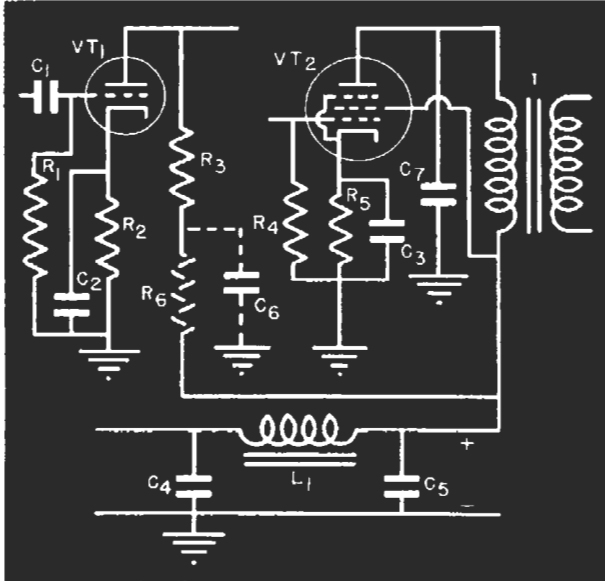

FIG. 22. Motorboating usually occurs in an audio amplifier which does not have decouplers R_6 - C_4 , or where this filter is ineffective.
a low impedance to cause feedback. For example, the a.c. plate circuit of the output tube in Fig. 22 traces from the plate, through the primary of transformer T , through condenser C_5 , and then through C_8 back to the cathode. Therefore, audio variations in this plate circuit will create a voltage drop across C_8 , the amount depending on the strength of the variations and on the reactance of C_8 . Since C_8 is the output filter condenser of the power supply, this audio variation is impressed on other tube plate circuits.
► If either condenser C_2 or C_3 in Fig. 22 opens, the variations in the plate current in that stage will develop an a.c. voltage drop across the cathode resistor. This drop will be introduced in the grid circuit; it will be out of phase with the grid voltage, and so will be a degenerative feedback. Such degeneration does not cause oscillation—in fact, it suppresses it. Manufacturers sometimes deliberately introduce this degeneration both to control oscillations and to flatten out the response characteristics of the amplifier. This must be done carefully, because too much will cause an excessive reduction in gain.